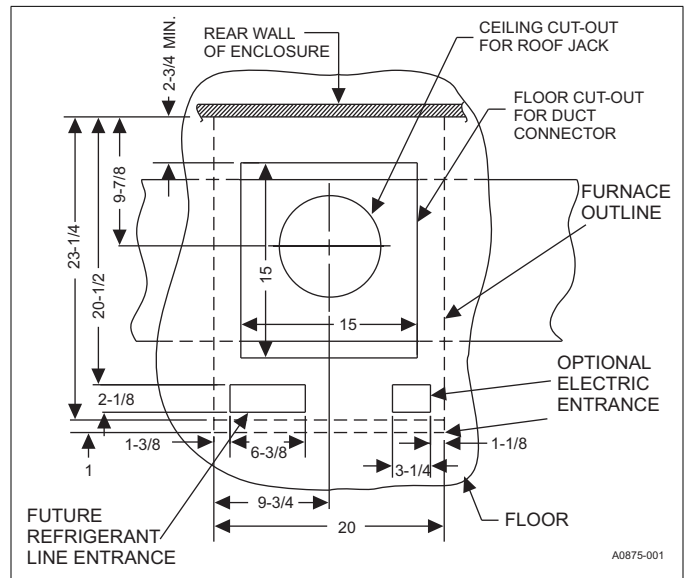

FIGURE 6: Recommended Floor Cut-out (7990 Series)
1. Make floor cut out as shown in Figure 6.